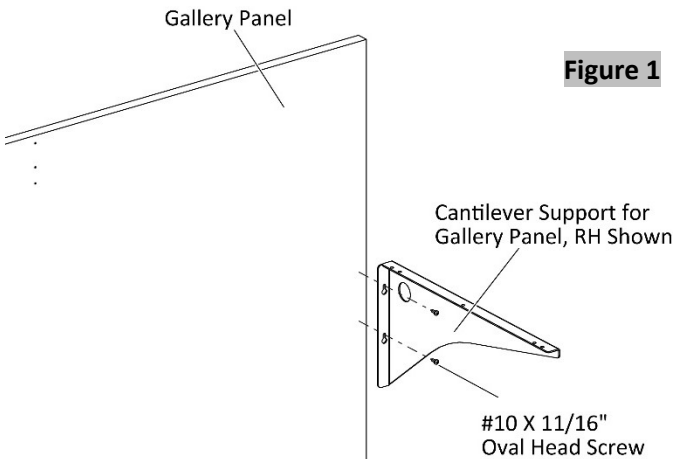

Figure 1
3. Align the top edge of cantilever support to the marker and flush with the vertical edge of the gallery, (Figure 1).